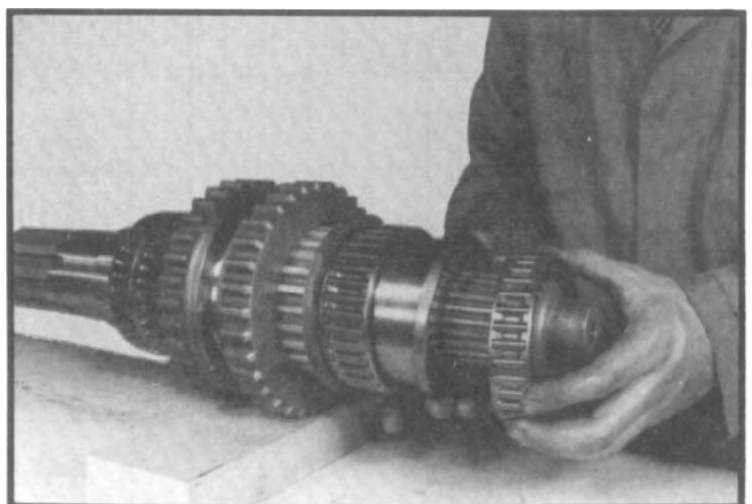

Fig. 98
1.4 Slide the two needle bearing assemblies and spacer ring over the front of the shaft. The wider bearing, first; spacer ring, second and narrower needle bearing, last. (See fig. 98.)